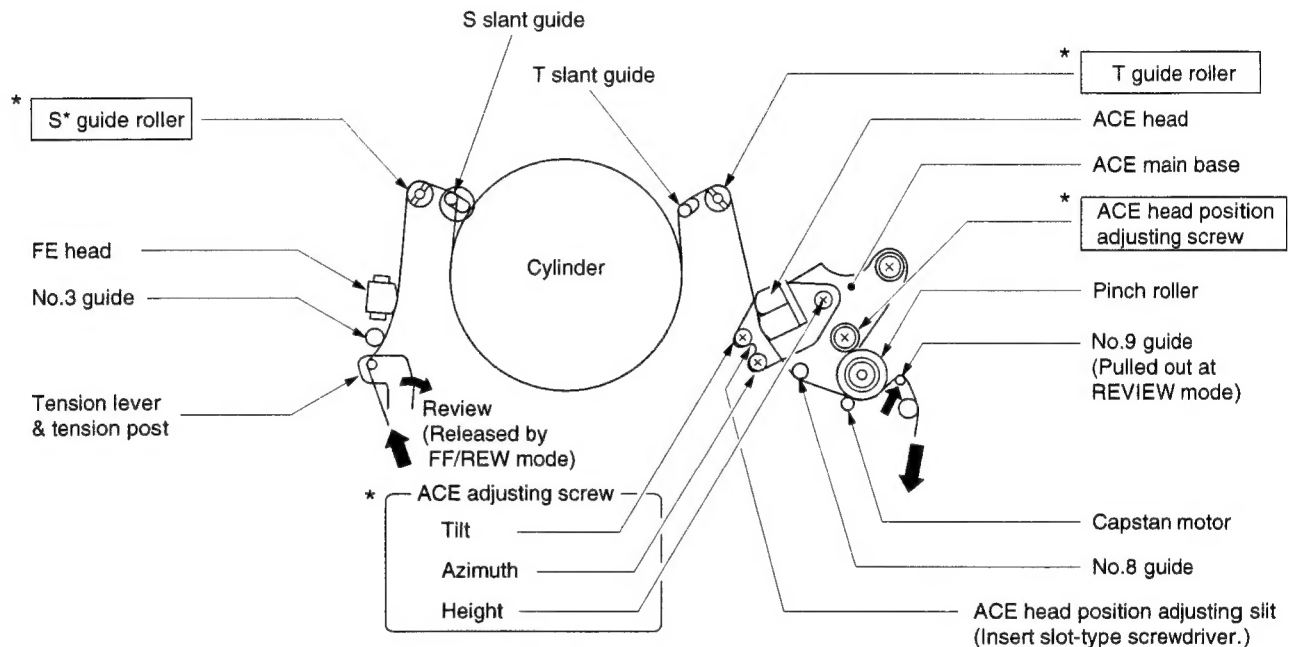

Fig. 1-3-1 Tape path system
The tape come out from the supply reel (S) of the video cassette runs through paths shown in Figs. 1-3-1 and 1-3-2, and is taken up by the take-up (T) reel. (S stands for the supply reel, and T for the take-up reel, hereafter.) At S reel side (tape entrance side of the cylinder) against the cylinder, a tension post to allow the tape surface to contact with each head with a proper tension which assures stable running, an FE head which erases entire data of the tape, and an S guide roller which restricts tape motion in upward/downward direction are provided.